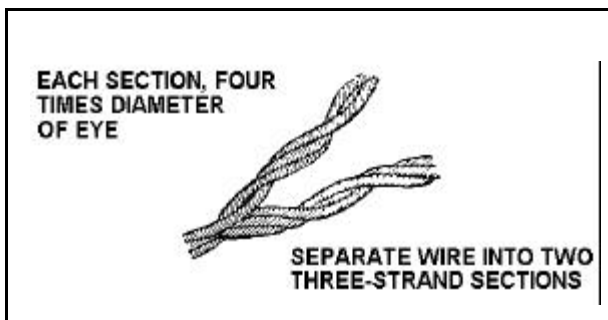

Figure 12-42. Making a Hasty Eye (Molly Hogan) Splice, Step 1
- **Step 1.** Using a marlinespike, screwdriver, or if necessary, a nail; separate the wire rope into two three-strand sections. These sections should be unlaidd four times the diameter of the desired eye. If you want a 1-foot diameter eye, unlay the sections back 4 feet (Figure 12-42).